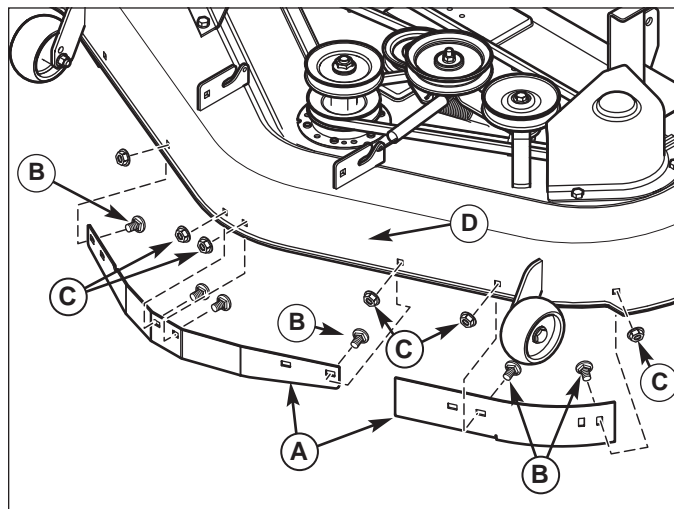

Figure 2. Remove Baffle and Hardware
1. Remove and discard existing baffles (A, Figure 2), carriage bolts (B) and nuts (C) from mower deck housing (D).